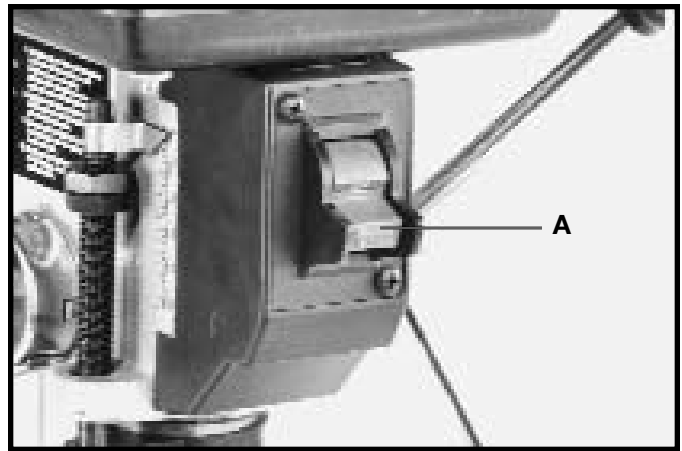

Fig. 18
The switch (A) Fig. 18, is located on the front of the drill press head. To turn the drill press “ON” move the switch to the up position. To turn the drill press “OFF” move the switch to the down position.